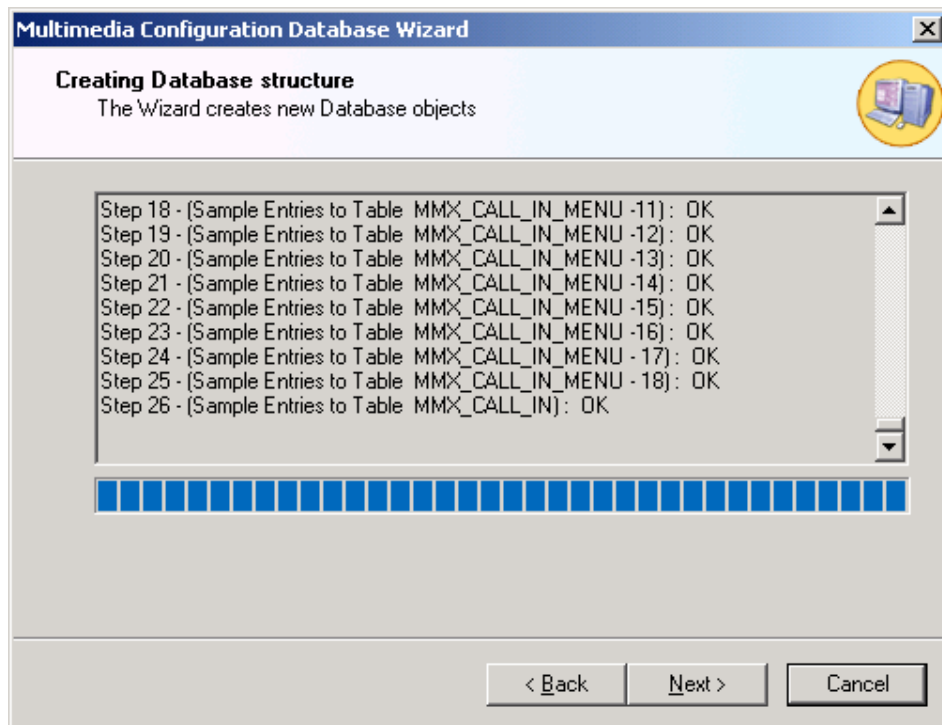

Figure 1.17. Creating Database Structure
- The Wizard creates the new SQL Server database, as shown in **Figure 1.17**. Click the **Next** button to continue, when it becomes available.